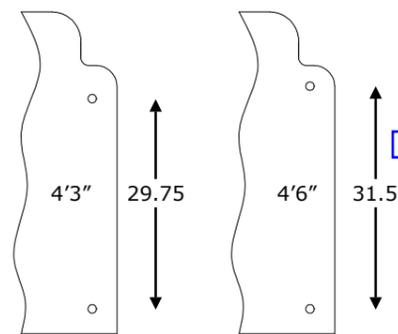

Fig 6. Handrail Holes
Drill the appropriate upper front handrail holes 1.2 mm diameter as shown in Fig 6. The centres can be determined by one of these ways:
- Using Fig 6 as a template.